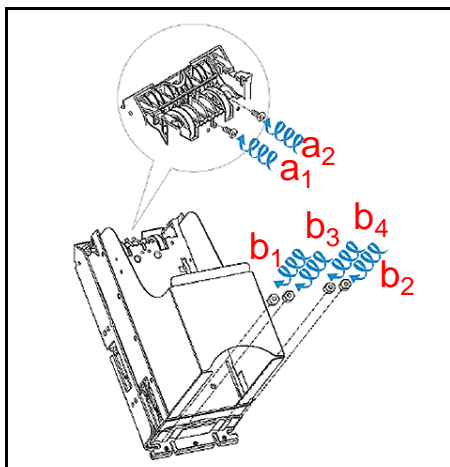

Figure 5 M4 Screw and Nut Locations
8. Remove the Course Path Reversing Guide and bolt the VEGA SD/SU Unit into the VEGA SD/SU Bracket on the Host Machine using two (2) M4 Screws (See Figure 5 a₁ & a₂) and two (2) or four (4) M4 Hexnuts (See Figure 5 b₁, b₂, b₃, & b₄).